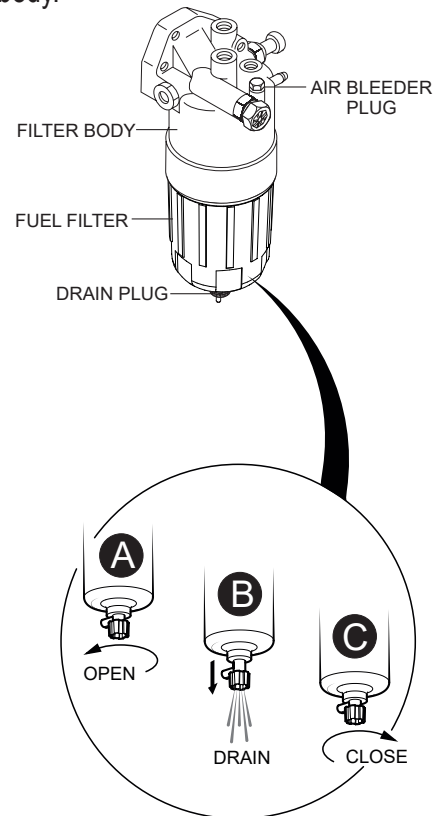

Figure 65. Draining The Fuel Filter
1. Loosen the **air bleeder plug** (Figure 65) on the fuel filter body.